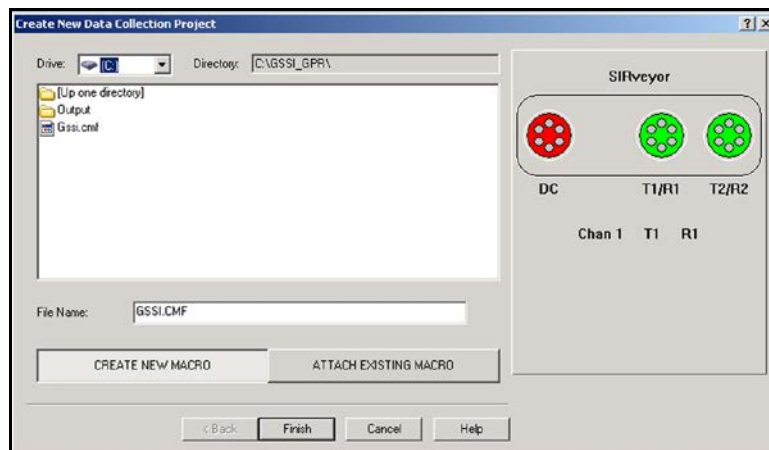

Figure 15: Attach a Macro or Create a New One.
- 6** This screen enables you to select/change your data acquisition parameters. For most applications the default settings are adequate. To access settings for different applications click the small arrow in the Config Type (1) option.
- For example if you are scanning a concrete slab to find reinforcing bars, choose CONCRETE. Then choose your antenna type under Config Name (2). An X after the configuration name is used to denote use of an antenna that has its dipoles oriented perpendicular to the normal survey direction. Common data collection parameters will be automatically set.
- 7** Check to make sure that Scans/ft (7) is adequate for your application. Generally, the more scans per unit that you collect, the slower your collection speed, the larger your data file and the more stretched your file will appear. When you are finished, click Next >.
- 8** The next window (Figure 15) will ask you to either create a new macro, or attach one that you have already created. A macro is nothing more than a saved list of data collection parameters. These parameters include: filters, time range and gain settings. These parameters will vary from job to job, so it is possible that you will have many different macros for different survey objectives. Common parameters for your antenna will be selected automatically based on the Config Type and Config Name that you chose in Step 6.